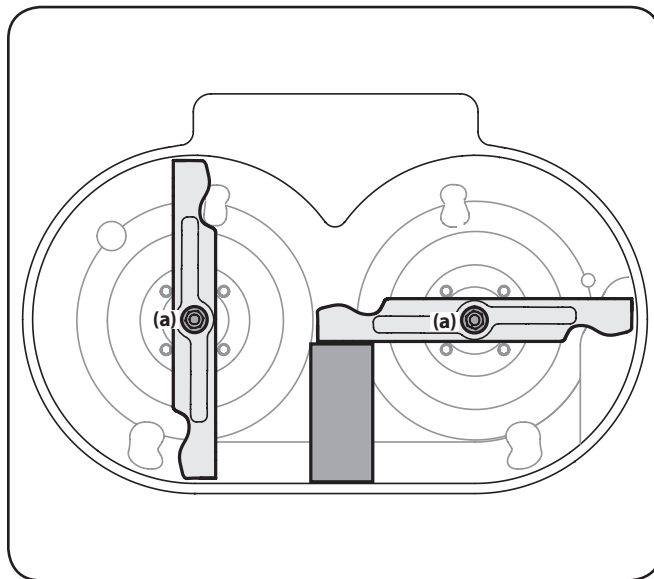

Figure 7-5
2. Place a block of wood between the center deck housing baffle and the cutting blade to act as a stabilizer. See Figure 7-5.
3. Remove the hex flange nut (a) that secures the blade to the spindle assembly. See Figure 7-5.